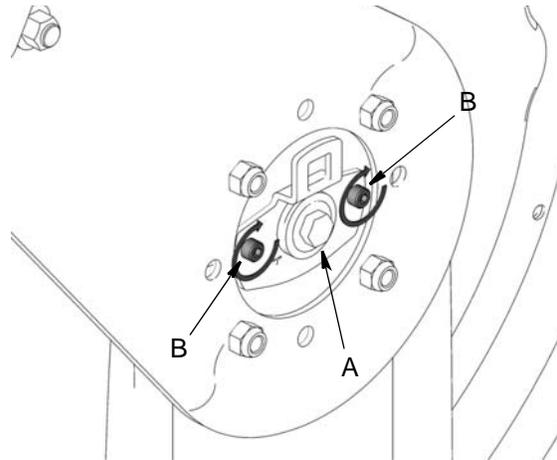

FIG. 18
8. Replace and tighten screws (B) and (A) (FIG. 18).